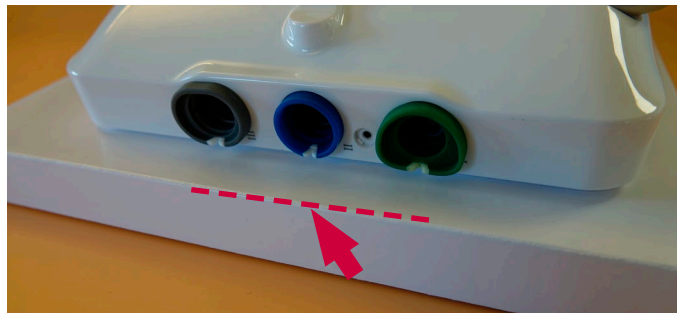

Figure 35 Place the back casing, starting from the side with the colour rings
- c) **Place the back casing on the displaying unit, starting with the side where the colour rings are placed (Figure 35)**